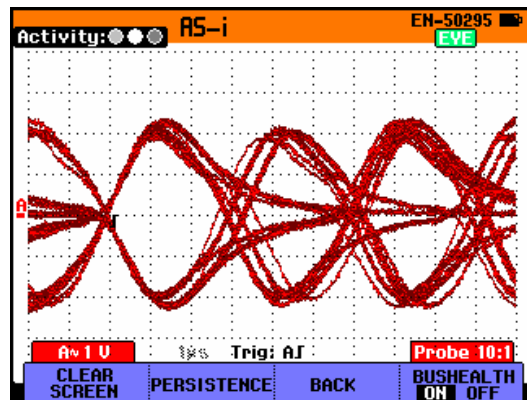

Figure 46. Eye Pattern Screen
- 1  In the main screen select eye pattern mode. You will see a screen like Figure 46.